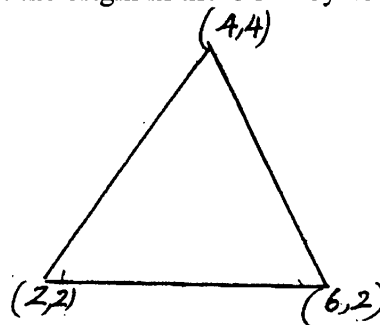

Fig.Q.7(b).
b. For the polygon shown in Fig.Q.7(b) compute the following transformation and determine the new position of polygon :